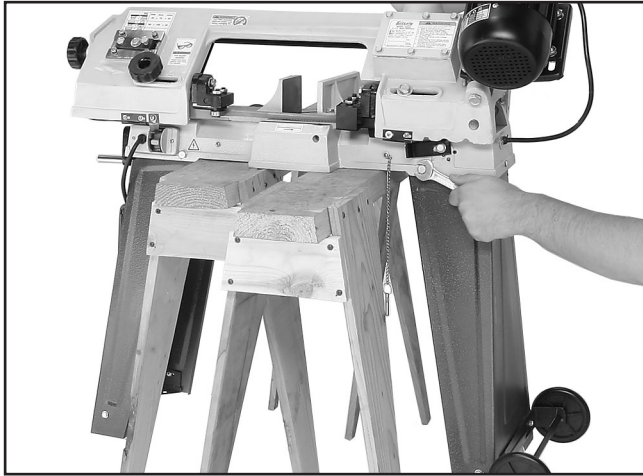

Figure 8. Leg assembly.
- With the help of an assistant, lift the bandsaw onto a pair of closely spaced sawhorses or other suitable support (see **Figure 8**).